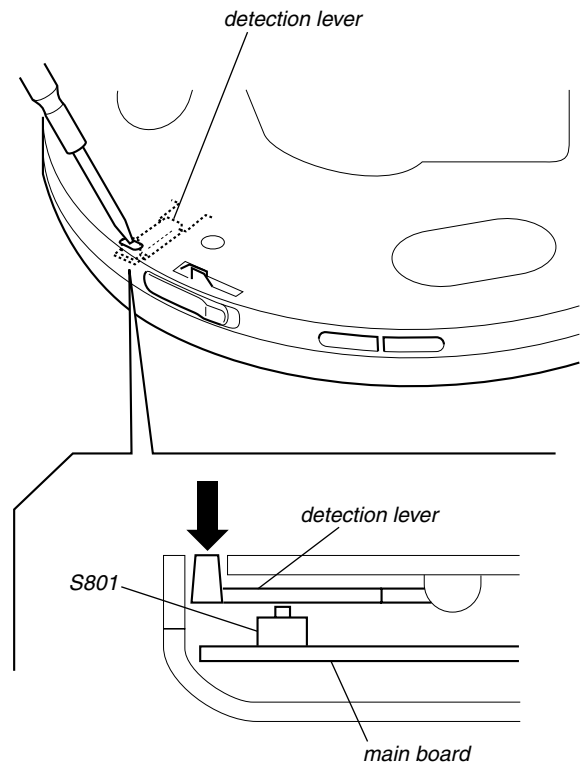

Fig. 1 Method to push the S801
2. With a disc not set, turn on the S801 with a screwdriver having a thin tip as shown in Fig.1.